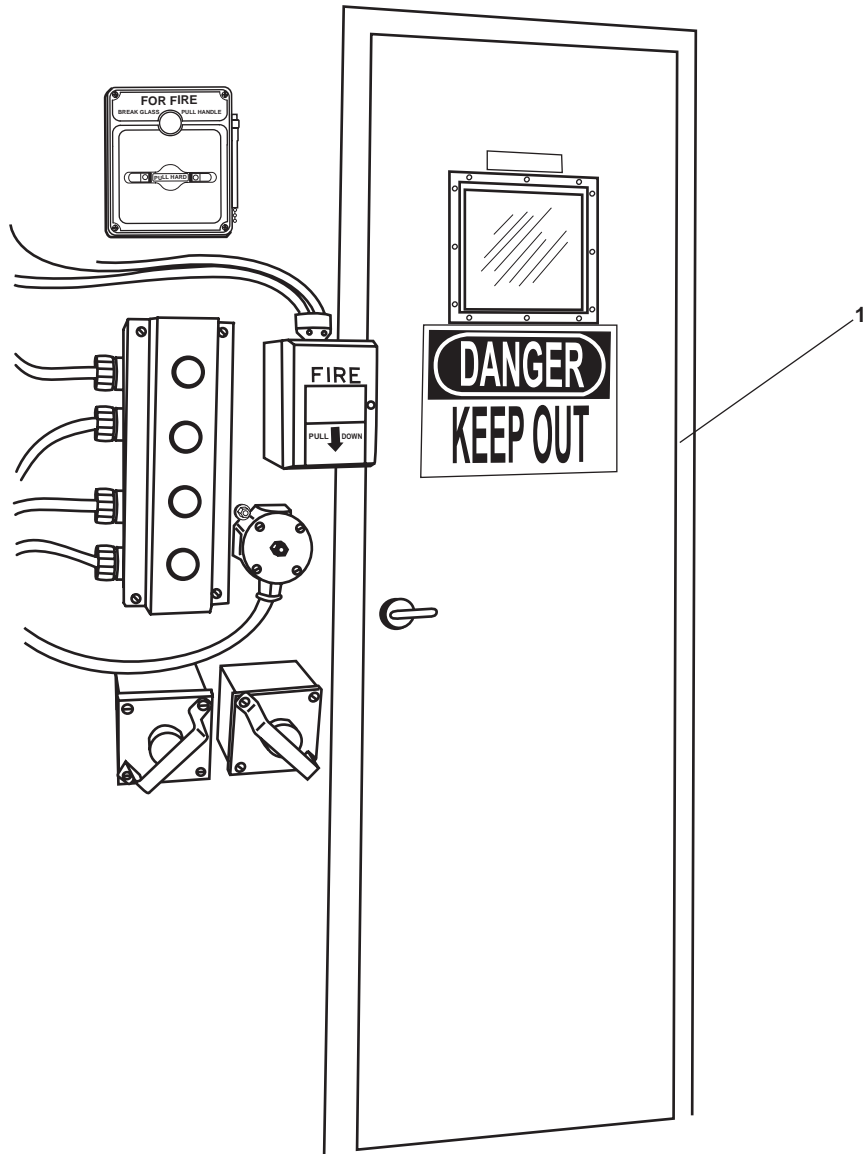

Figure 7. Engine Room Entrance Door
- g. Engine room entrance door engine room vestibule (figure 7, item 1)
4. The correct load chart in use screen (figure 7) will appear on the LCD display (figure 2, item 1). At this point there are no available options.